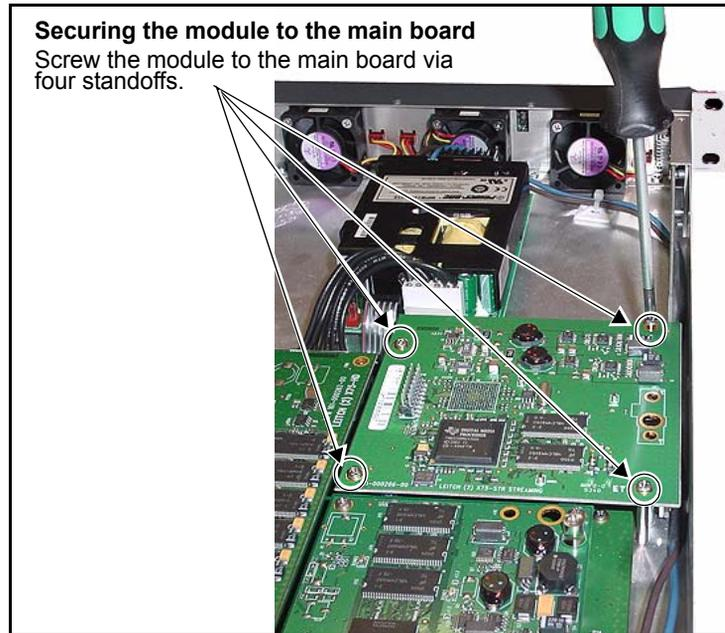

Figure C-30. Securing the Module to the Main Board
Figure C-30 on page 344 illustrates the location of the three module standoffs where you must install the screws.
2. Remove the three screws that secure the module to the main board. See Figure C-30 on page 344 to locate these screws.